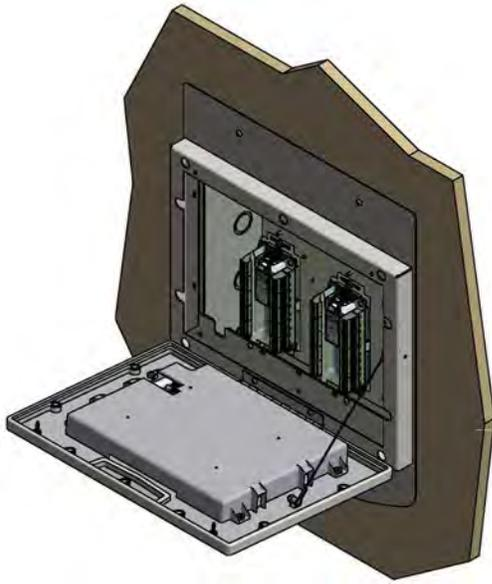

Figure 132: MEGA3™ Single Mount Front Panel Assembly
3. Mount the Front Panel assembly hinge to the trim ring using the countersink sheet metal screws provided on the trim ring (Figures 132 - 134).